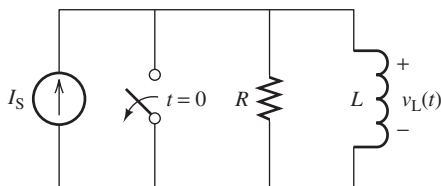

FIGURE P5.19 Circuit for Problems 5.19 to 5.21.
5.19 (A) Find the expression for the inductor current, $i_L(t)$, in Figure P5.19. (The switch is opened at $t = 0$.) $i_L(0) = 0$.
5.20 (A) Find the expression for the power absorbed by the inductor in Figure P5.19. (The switch is opened at $t = 0$.) $i_L(0) = 0$.
5.21 (A) Find the expression for the energy stored by the inductor as a function of t in Figure P5.19. (The switch is opened at $t = 0$.) $i_L(0) = 0$.